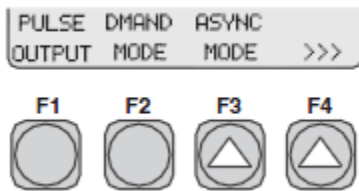

Figure 3
- Depress “F1” (Pulse Output). Figure 3
1. **PULSE OUTPUT TEST:** (Fig 3 – above F1)